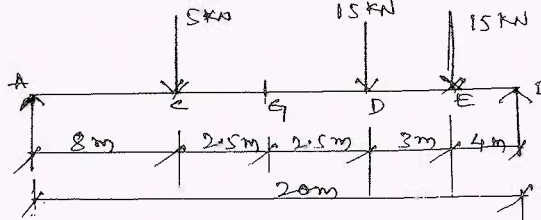

Fig.Q9(c)
- c. Find the shear force at the section G for the loaded simply supported beam by using influence line diagram. Also find shear forces. [Refer Fig.Q9(c)]